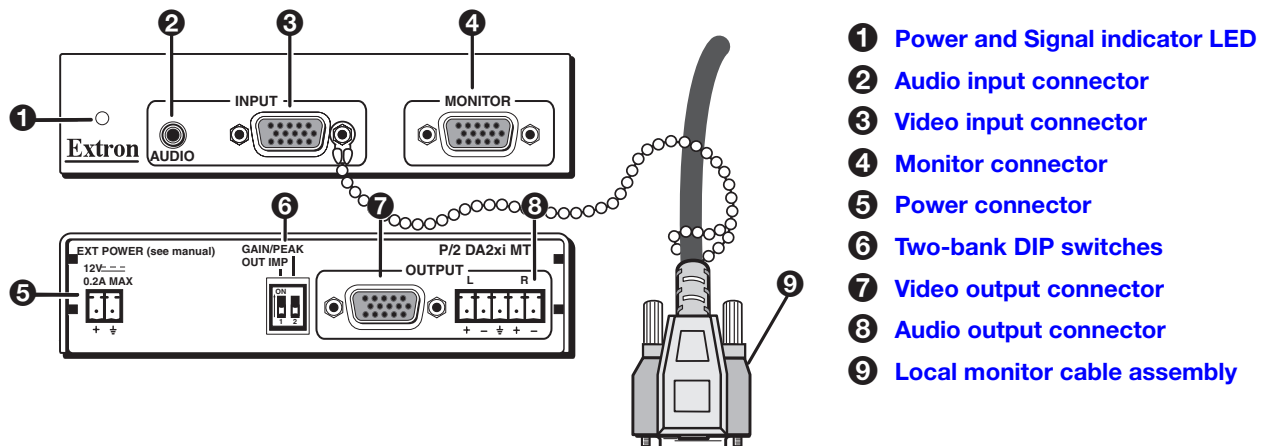

Figure 2. Front and Rear Panels
- 1 Power and Signal indicator LED** — (see figure 2 on the previous page) When lit green, this LED indicates that the distribution amplifier is receiving both power and a computer signal. When lit amber, it indicates that the distribution amplifier is receiving power but no computer signal.
- 6 **Two-bank DIP switches** — (see figure 2 on page 1) These switches affect only the video output (7), not the monitor output (4). The **Gain / Peak** DIP switch should be on (up) when the output cable is over 100 feet (30.5 m). The **Out Imp** DIP switch changes output impedance. If all connections and operations are correct, but the output device has no picture, switch to the other position.